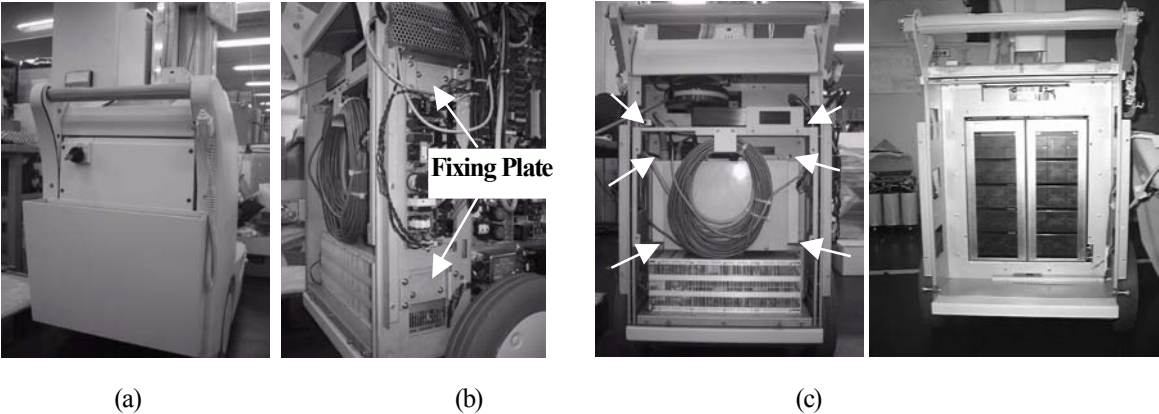

Fig. 6-52 How to remove FPD box and DR Assy
4. Remove the Fixing Plates which are fixing DR assy to the main frame. (Refer to Fig.6-52(b).)
6. Remove the six screws as shown in Fig.6-52(C) ,pull out the DR assy.